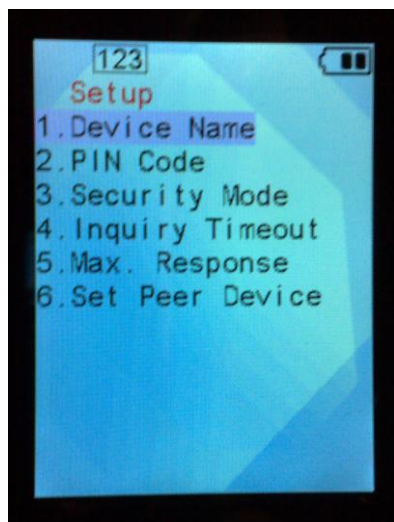

Figure 6-2
2. Select 5.Blutwooth -> 1.Setup, it will enter Bluetooth setting menu like Figure 6-2